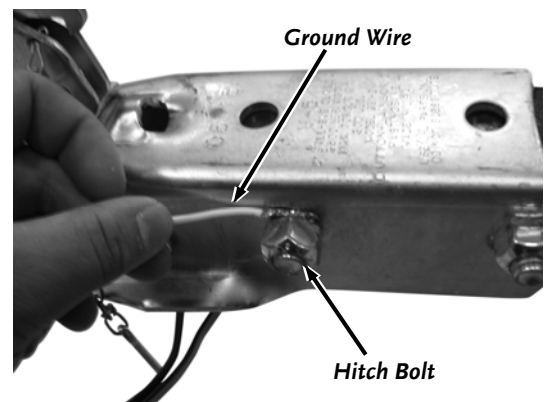

Figure 13
16. Remove 1" of insulation from the end of the White (Ground) Wire with the Wire Strippers (**Figure 13**).